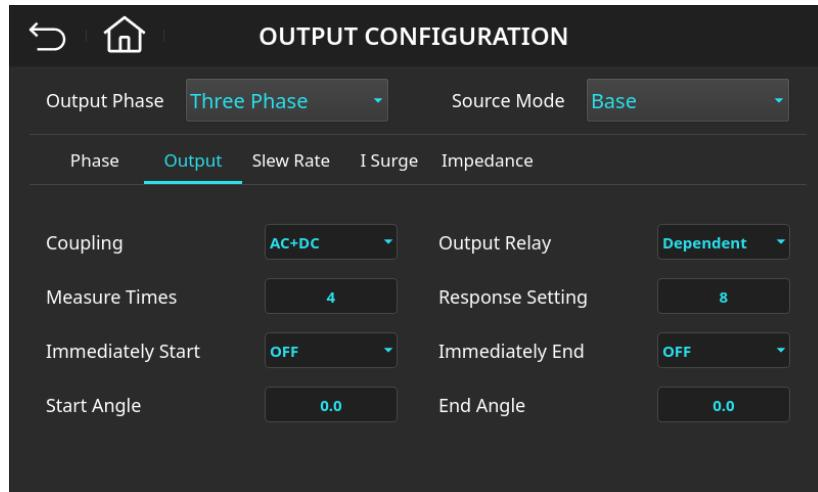

Figure 4-38: Output Configuration (Output) Page – Measure Times Set to 4
3. Enter **4** and press the **Enter** key. The value will change to “4”, as shown in Figure 4-38.